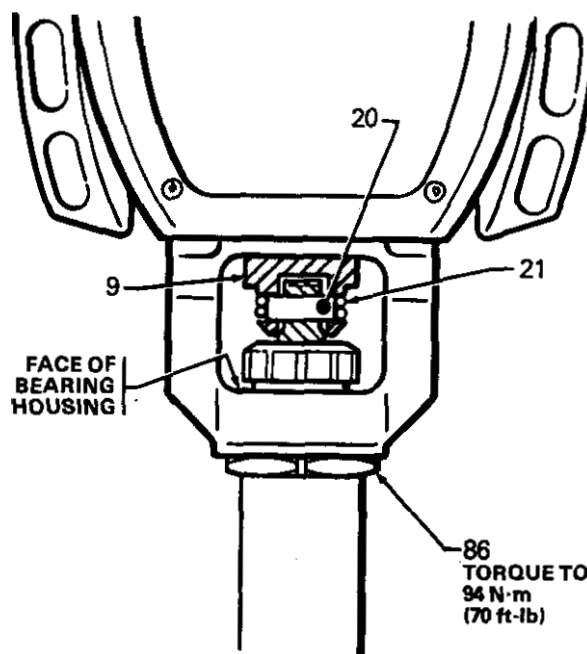

Fig 26
**Be sure the retaining spring (21) is firmly in the groove of the connecting rod, all the way around, to prevent the pin (20) from working loose due to vibration. See Fig 26.**